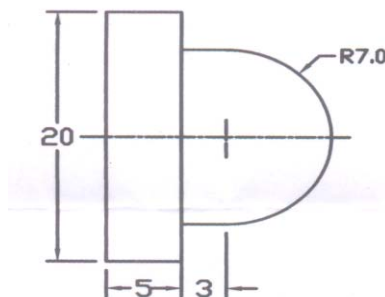

Fig.1: Raw material size
b) Prepare canned cycle for work piece shown in Fig.1. **[5]**